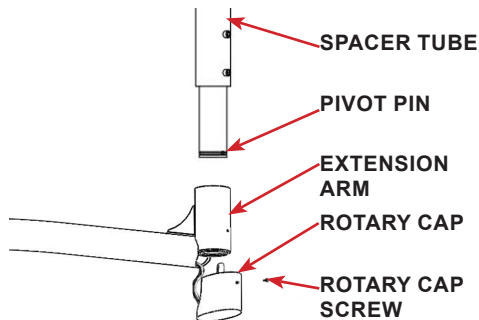

FIGURE 2.25 - Rotary Cap
STEP 1: Remove the phillips head screw on the spring arm rotary cap. Refer to FIGURE 2.25
STEP 2: Remove the spring arm rotary cap by tilting it forward and pulling outward. The rotary pin assembly is attached and will slide out with the cap. Refer to FIGURE 2.25